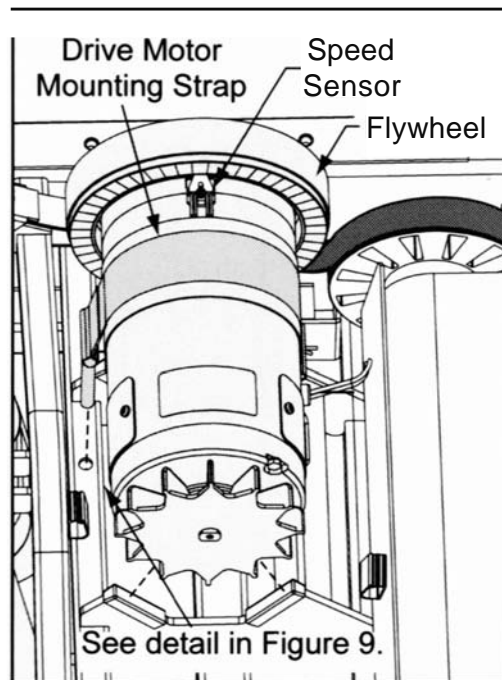

Figure 8
- A. Locate the mounting bolt which holds the flywheel in place. Remove the bolt and two washers and set them aside. See Figures 8 and 9.
- C. Locate the two Phillips head screws which hold the speed sensor bracket on to the side of the motor. Remove the two screws and set them aside with the speed sensor assembly. See Figures 8 and 9.
- A. Locate the mounting nut at the end of the mounting strap. It is toward the front of the treadmill. See Figures 8 and 9.
- B. Loosen and remove the nut. Set the nut aside. See Figures 8 and 9.
- A. Position the speed sensor assembly bracket over the two holes in the side of the motor. Attach the two Phillips head screws which hold the bracket in place. See Figures 8 and 9. See *Speed Sensor Adjustment* in the Troubleshooting chapter if necessary.
- B. Place the mounting strap around the motor over the isolator pad. The metal mounting strap should not contact the motor. Place the tee bar inside the hole on the base of the treadmill and loosely hand-tighten the nut underneath. See Figure 8.